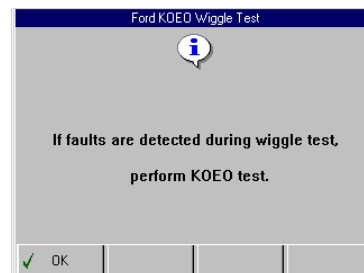

Figure 7.18: Wiggle Test Instruction Screen
- 5 Press the **ENTER** key. This displays an instruction screen (Figure 7.18 on page 43).